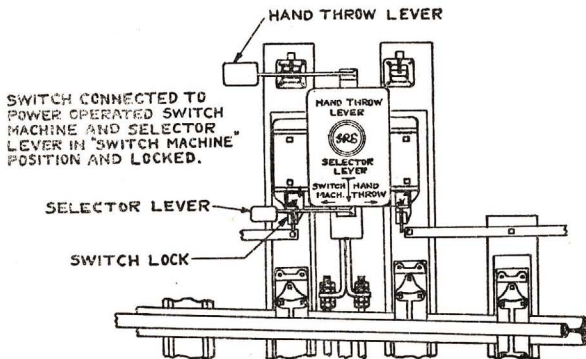

FIGURE 1
Dual Control Switch Mechanism.—A mechanism provided with a hand-throw lever and a selector lever so arranged that when selector lever is operated the control of switch will be transferred from the power operated switch machine to the hand-throw lever, or from the hand-throw lever to the power operated switch machine. (See Figs. 1 and 2).
- (e) When trainman reports having finished using a hand operated switch and that switch is closed and locked or when trainman reports having finished using a dual control switch mechanism and that the selector lever has been restored to the "switch machine" position and is locked, (position shown in Fig. 1) the red lever markers on the control levers must be removed.
- (a) To operate a dual control switch by hand, trainman must secure permission from the train dispatcher. When permission, including time and working limits, is granted, and when train or engine is on the siding or on the main track between switches of a siding, trainman must check indicator (where provided) adjacent to the switch; if green, he must immediately operate selector lever to the "hand-throw" position; if red, or if fails to indicate, trainman must not operate the selector lever, but must ask the train dispatcher for further instructions. When the time limit has expired or work is completed, the selector lever must be restored to the "switch machine" position, selector lever and hand-throw lever locked, (See Fig. 1) and so reported to the train dispatcher; at the same time he must report the location of train or engine and the number of the governing signal.